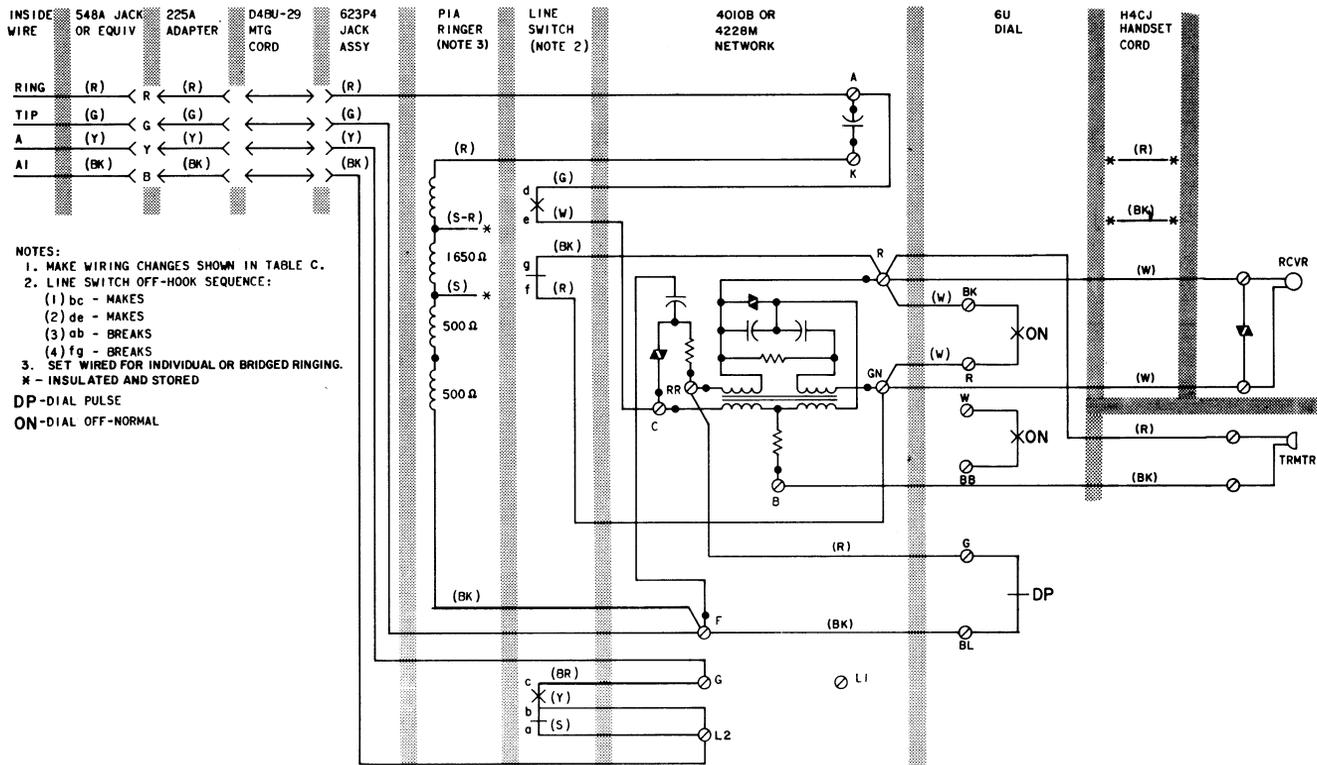

Fig. 8—881A105, 881A106, 881A107, or 881A108 Telephone Set Wired for 1A1 or 1A2 KTS
3.04 Connections for use with 1A1 or 1A2 KTS are shown in Fig. 8 and 10. Table C includes necessary wiring modification required for 1A1 or 1A2 key telephone system use.